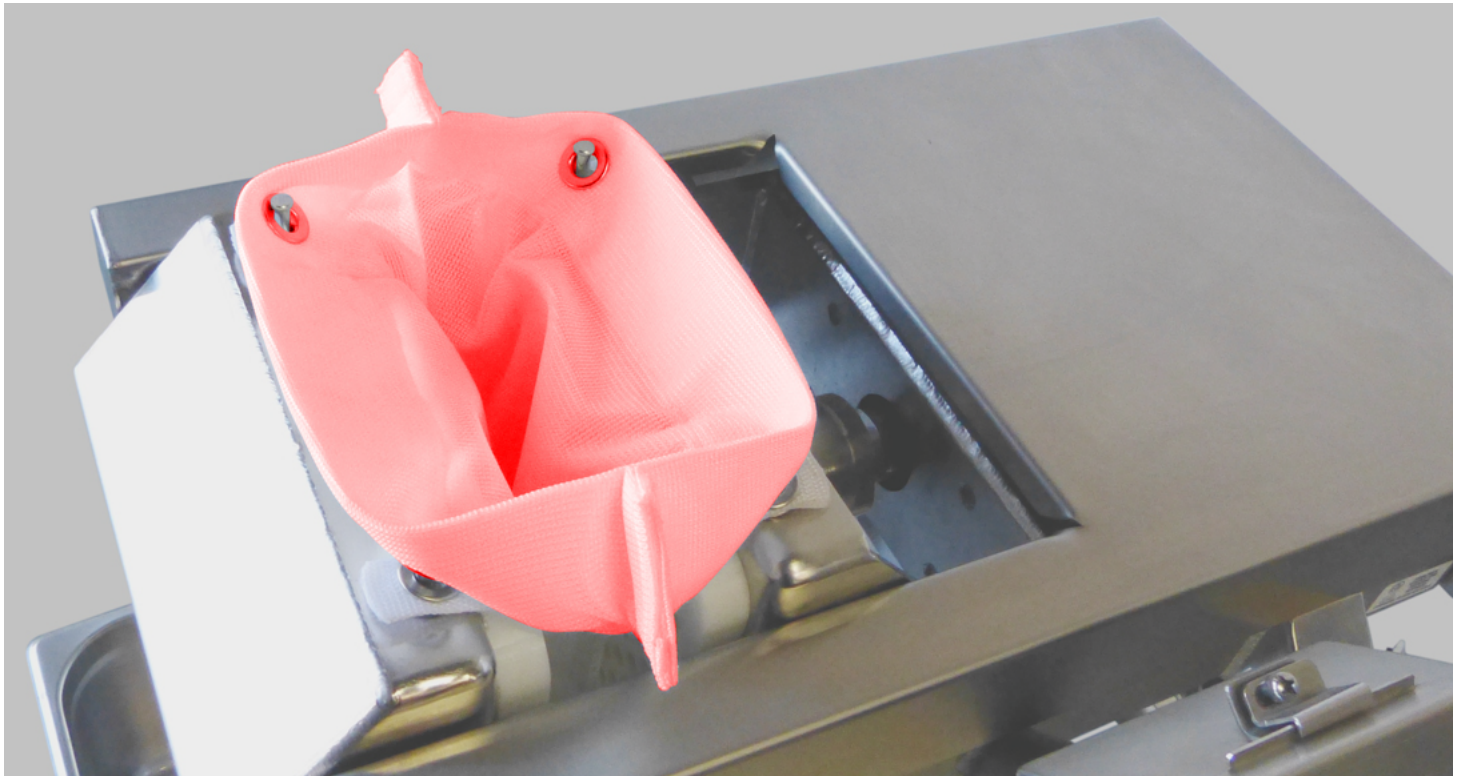

Figure 6 : *Installation of the Press Bag.*
3. Install a clean Press Bag into the press area. The Press Bag is designed to be suspended from two sets of Bag Posts (see **Figure 6**). Make sure the opening in the bag is unobstructed. Do not use a Press Bag with broken/tearing seams.